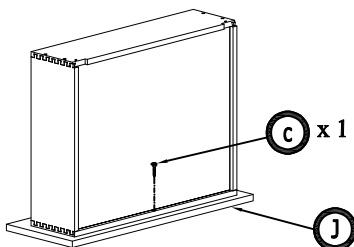

Figure 5
5. Assemble the screw 1" from drawer box front with drawer front into the free hole in the drawer front (Figure 5)